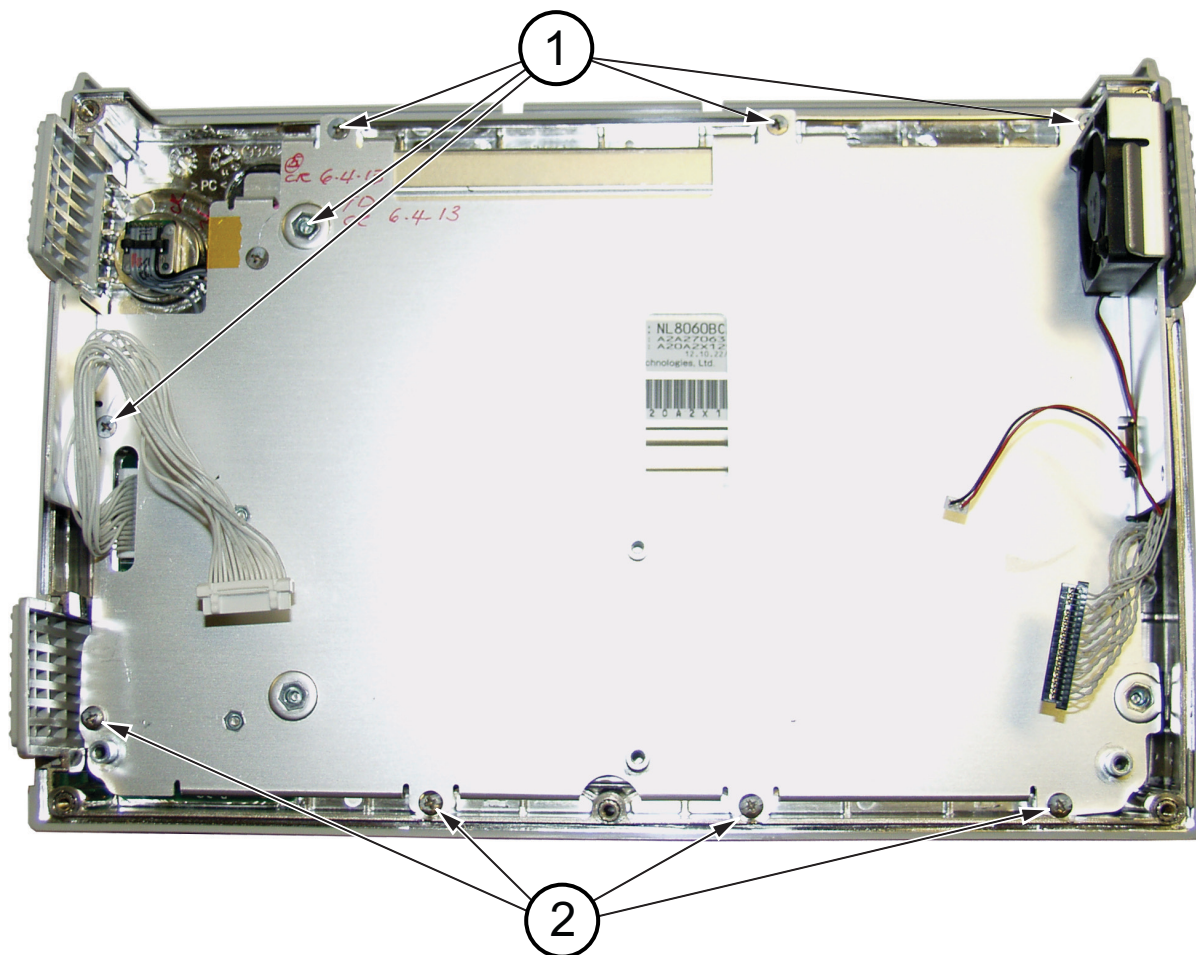

Figure 4-33. Nine Screws Secure LCD Chassis (Metal Pan) Over LCD Display
3. Remove the 9 screws (noted by item 1 and item 2 in Figure 4-33) securing the metal pan (part of LCD Assembly) to the front half of the case.
7. Use the 9 flathead screws (noted by item 1 and item 2 in Figure 4-33 on page 4-42) to secure the LCD Assembly chassis to the front half of the case. Torque these 9 screws to 8.0 lbf · in (0.90 N · m).